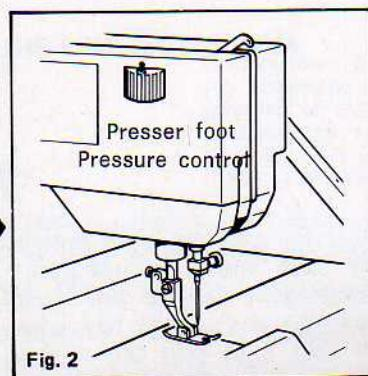

Fig. 2
To adjust pressure on presser foot (Fig. 2) turn dial of pressure regulator (31). It has markings of 0-6. The higher the number, the higher the pressure. You will probably want to have the regulator set at 3 for most of your sewing. Increase pressure for light weight fabrics, decrease for heavy.